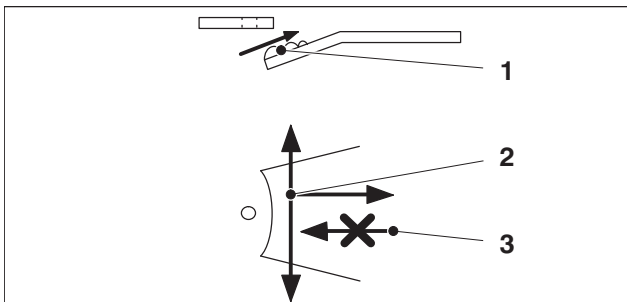

Fig. 51 Cleaning diagram of the air-blast nozzle
5. Clean the sheet guide plates and the powder deflectors on D.S. and on O.S. with a cloth moistened with washing fluid. Please observe the cleaning diagram at the air-blast nozzle (Fig. 51).